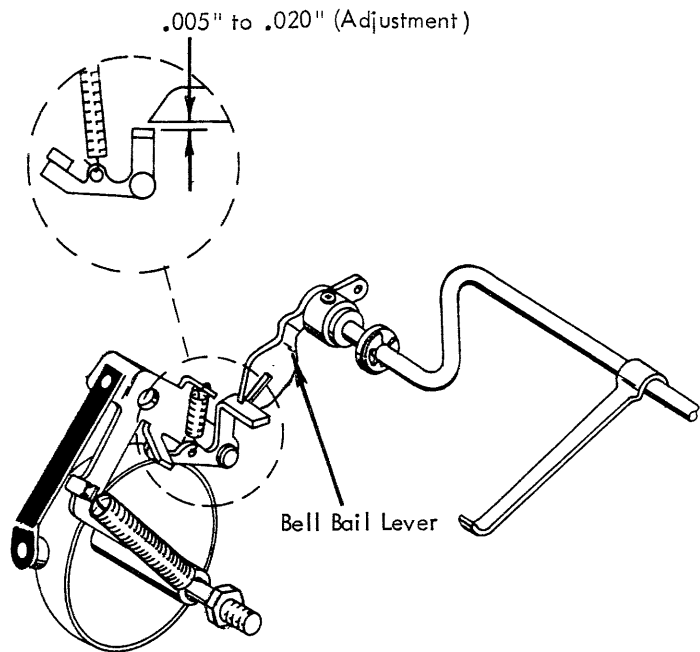

FIGURE 180. Bell Bail Lever (Early Style)
- a. Early - With the carrier positioned away from the right hand margin stop, adjust the bell bail lever located on the left end of the bellringer bail to have $.005''$ to $.020''$ clearance with the bellclapper bellcrank lever when the bail is at rest against the bail stop (Fig. 180). The bail stop is located at the right end of the bail.